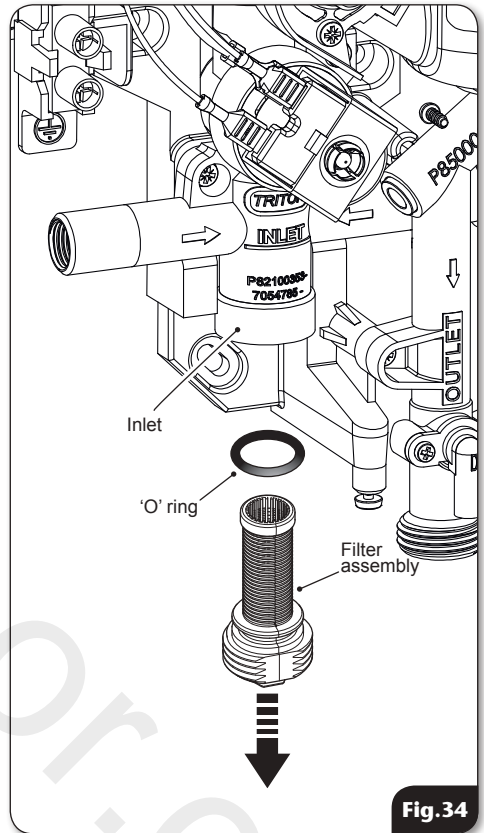

Fig.34
- The inlet filter is situated inside the water inlet fitting (**fig.34**).